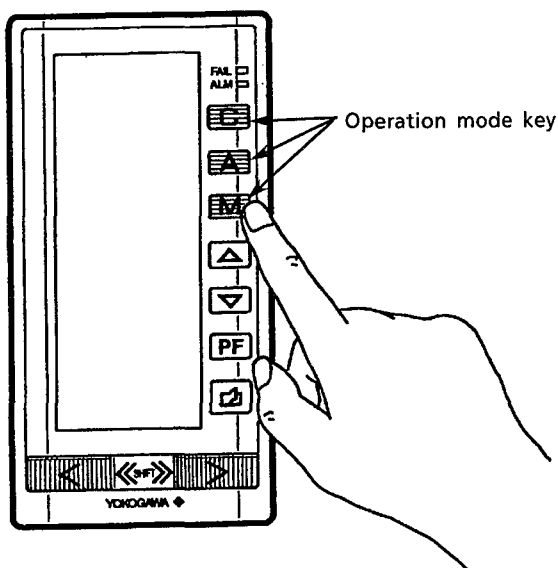

Figure 10.1 Changing the Control Operation Mode
(1) Manual Operation with the MV Operation Key
- ① Press the  key to change the control operation mode to the M mode (see Figure 10.1). The LED in the  key lights up.
(2) Switching from the Manual Operation to the Automatic Operation
After performing step ③ of (1), press the  key to change the control operation mode to the A mode (see Figure 10.1). The LED in the  key lights up, the controller goes into the automatic operation mode. Mode switching is bumpless and balanceless.